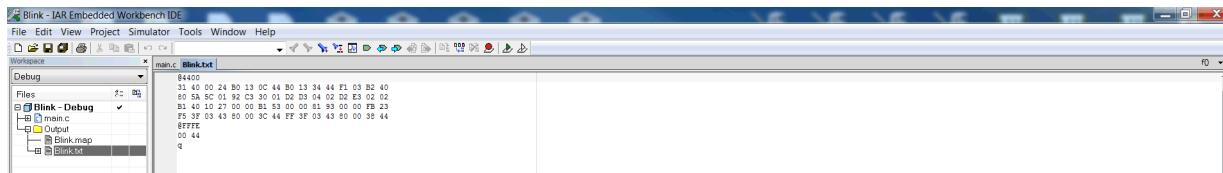

Figure 9. IAR – Output File
3. Build or make the project. The **Blink.txt** or **Blink.hex** file (see Figure 9) is generated in the **Output** folder.